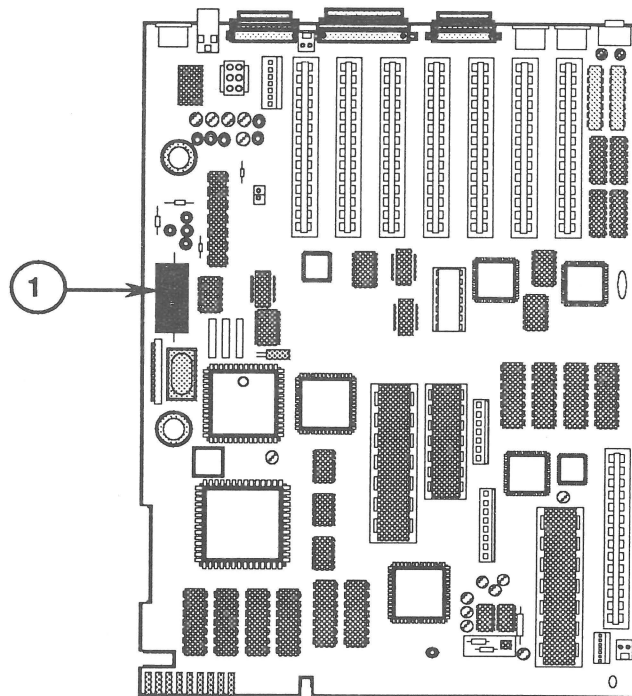

FIGURE 11
2. Locate the battery on the front of the logic board (Figure 11, #1). Turn the logic board over. The battery is held in place by two soldered leads. Apply fresh solder to the two connections.